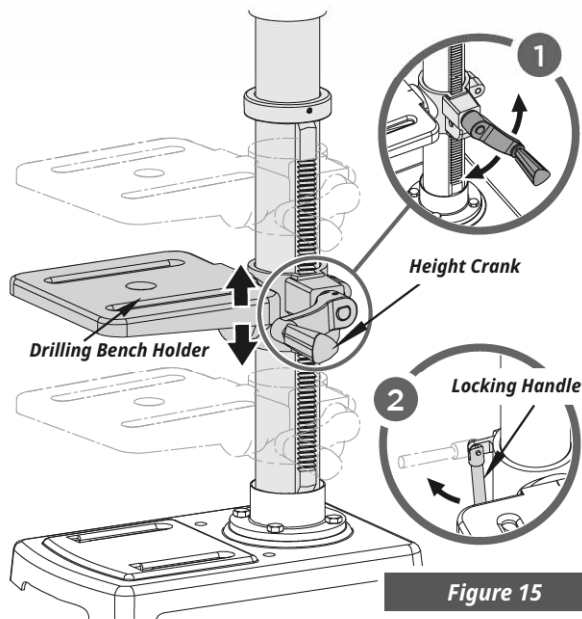

Figure 15
2. Rotate the height crank clockwise or counter clockwise to the desired height. (See Figure 15 illustration 1)
4. Fasten the drilling bench again with the locking handle. (See Figure 15 illustration 2)